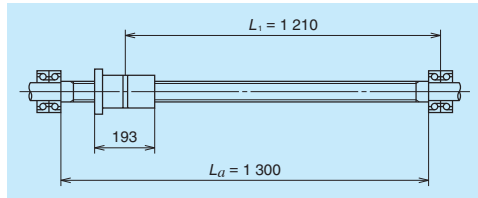

Fig. 16.4 Examination of buckling load
(1) Permissible axial load
Calculate the buckling load for conditions shown in Fig. 16.4 with P of 10 354 (N) and L_1 of 1 210 (mm).